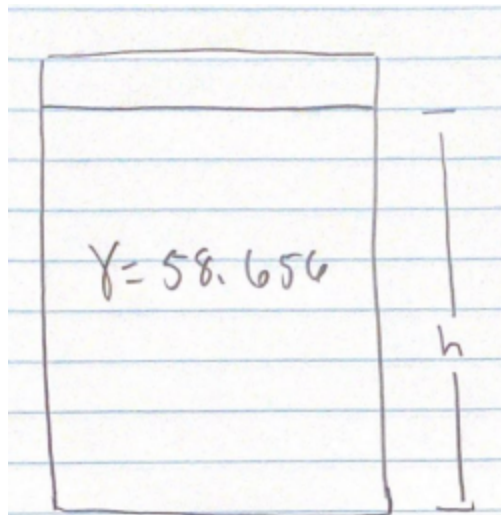

Figure 2: Determining Pressure at Bottom of a Tank
- The basic coolant storage and delivery system is to have the functional design sketched in the block diagram in Figure 2.